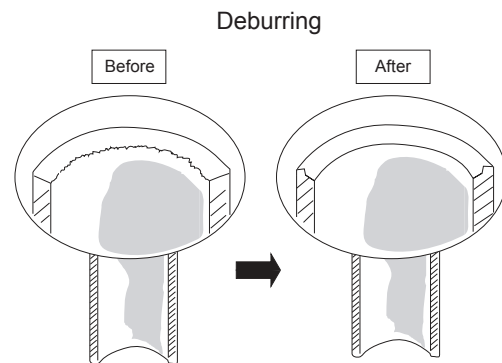
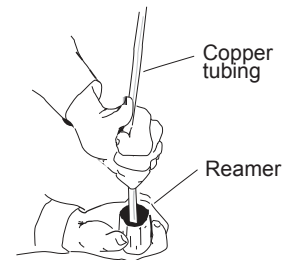

Fig. 2-5-1
Fig. 2-5-2
- (1) Cut the copper tube to the required length with a tube cutter. It is recommended to cut approx. 30 – 50 cm longer than the tubing length you estimate.
- (2) Remove burrs at the end of the copper tube with a tube reamer or a similar tool. This process is important and should be done carefully to make a good flare. Be sure to keep any contaminants (moisture, dirt, metal filings, etc.) from entering the tubing. (Fig. 2-5-1 and Fig. 2-5-2)
When reaming, hold the tube end downward and be sure that no copper scraps fall into the tube. (Fig. 2-5-2)